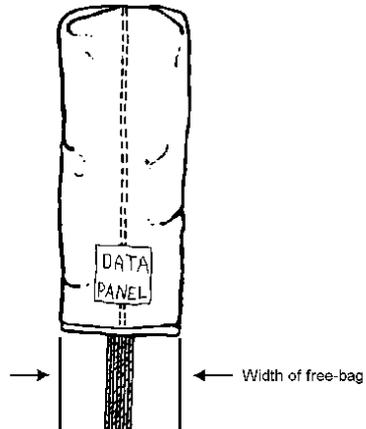

Figure 10.
Step 11.) Kneel on the trailing edge of the center cell of the canopy and center the middle seam of the center cell in the middle of the canopy bundle. "Cocoon" fold the bundle by spreading the center cell of the RESERVE canopy to the approximate width of the RESERVE free-bag and tuck the outer edges of the material under the bundle. (See Figure 10.) Prepare the free-bag in accordance with the manufacturer's instructions supplied with harness/container system.